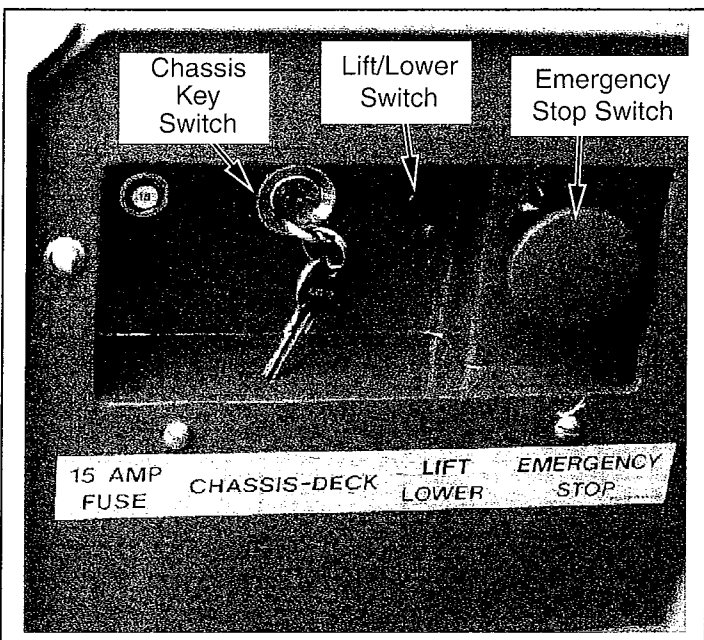

Figure 2-3: Chassis Control Module
8. Pull out on chassis and platform emergency stop switches to turn ON (Figure 2-3 and 4 or 5).
9. Turn the Chassis Key Switch (Figure 2-3) to **CHASSIS**.
10. Push chassis lift switch (Figure 2-3) to **LIFT** position and fully elevate platform.
15. Turn the chassis key switch (Figure 2-3) to **PLATFORM**.
- A. Position rotary selector switch (Figure 2-3) to DRIVE LOW.